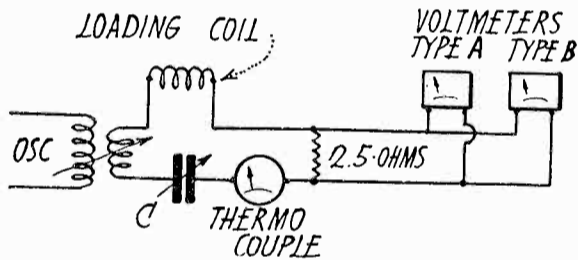

Fig. 5. Circuit for Calibration of Type B Voltmeter
0.1 volt, but has a low input resistance. It is the Type B voltmeter in Fig. 5, whereas the C battery detector is the Type A. Its adjustment and use is similar to that of Type A.
Fig. 5 is the circuit for low voltage calibration of the Type B voltmeter by means of the Type A voltmeter. The oscillator coupling coil is tuned with the loading coil and condenser to give maximum voltage. The Type A voltmeter has previously been calibrated to 60 cycles. The current through R is adjusted until voltmeter B shows $\frac{1}{2}$ volt, when I is read. If R is non-inductive I will be 200 milliamperes, otherwise I will be less. Decreasing I to 40 milliamperes gives 0.1 volt across R , whence the reading of Type B at this frequency can be calibrated. Intermediate values of I give other voltages whereby the grid-leak condenser voltmeter can be calibrated for different frequencies.